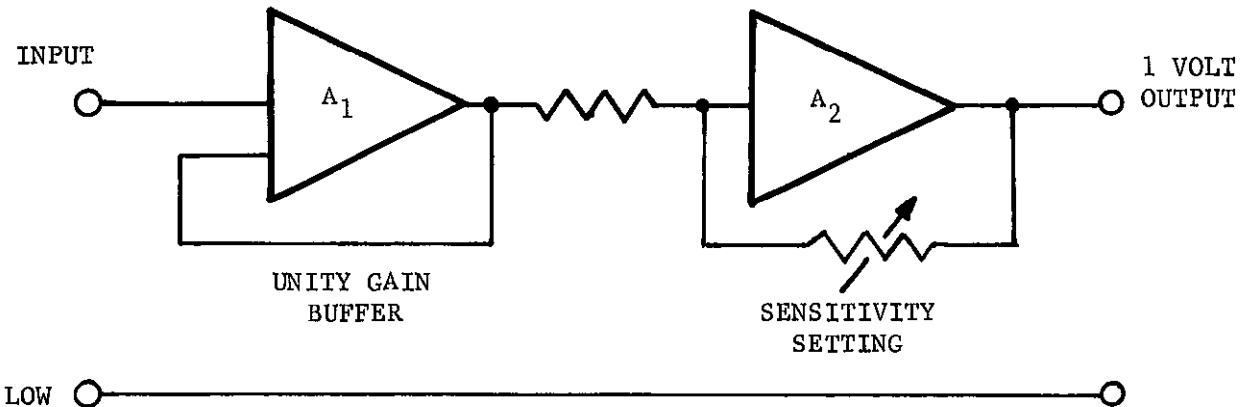

FIGURE 24. Simplified Diagram of Amplifier Section.
a. Input Amplifier. This amplifier A₁ is shown in simplified form in Figure 24. (Refer to schematic 25764E). The input signal applied between HI and LO (J120) is amplified by the input MOS-FET amplifier composed of transistors Q101A and Q101B. Transistors Q102A and Q102B are used for over-voltage protection (base-emitter connected). Integrated circuit QA101 provides high gain (approx. 100,000) for the electrometer amplifier section. Potentiometer R123 is an internal zero adjustment used for calibration purposes. Potentiometer R119 is a front panel ZERO control with adjustment capability of approximately 3 mV. Transistors Q105 and Q106 are complementary output stages which provide a maximum of ± 200 volts at the "X1" terminal (J118). The electrometer amplifier is connected in a unity-gain configuration. Input resistance between HI and LO is greater than 2×10^{14} ohms in "VOLTS" function.
e. Voltage Sensitivity. This amplifier A₂ is shown in Figure 24. (Refer to schematic 25776D). The second stage variable-gain amplifier is composed of a FET stage (Q301A, Q301B) and an integrated circuit QA301. Gain is determined by resistors RN301 (A to F) where: